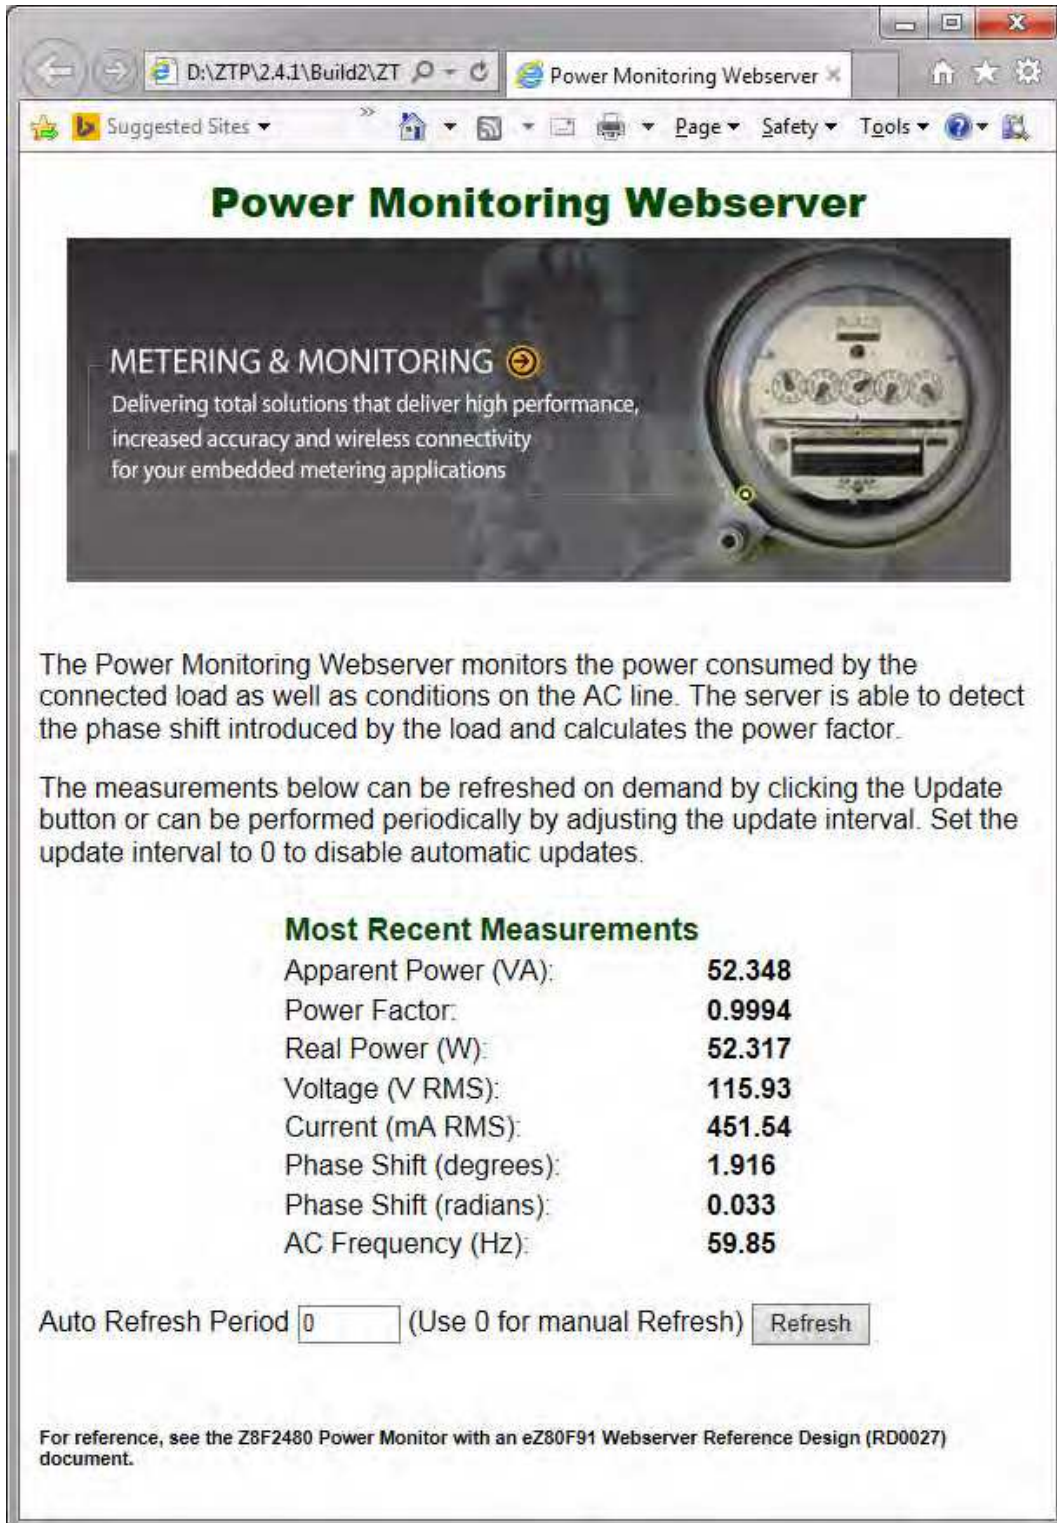

Figure 5. Monitored Measurements Displayed on a Web Page
The eZ80F91 Webserver Module contains a web page that displays the last set of AC measurements obtained by the Z8F2480 MCU. These measurements are transmitted over the optically-isolated I2C bus established through U4. The eZ80F91 Webserver Module is the I2C Master, and polls the Z8F2480 MCU (operating as the I2C slave) to obtain new measurement data. I2C requests can be initiated by this Master at any time; however, the Z8F2480 MCU only responds to requests for AC measurements when it is otherwise idle. If the Z8F2480 MCU is actively performing a measurement or updating an average, the I2C request remains pending until the active AC measurement operation/calculation completes. After obtaining the raw measurements, scripts on the web page convert the data into a human-readable format and display the results. A sample of the measurements displayed on the web page is shown in Figure 5.
- **Note:** When input exceeds recommended operating conditions, the web page shown in Figure 5 will display a warning message.